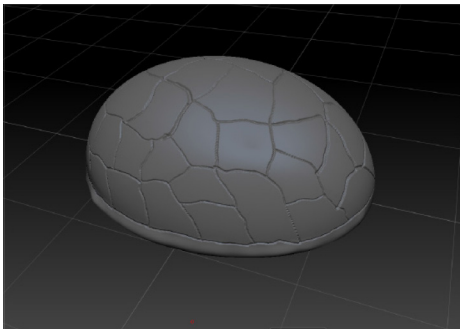

Figure 3-61 Pattern created on the entire upper part of the *turtle shell*
5. Continue creating the pattern on the entire upper part of the *turtle shell* using the same settings of the brush, refer to Figure 3-61.